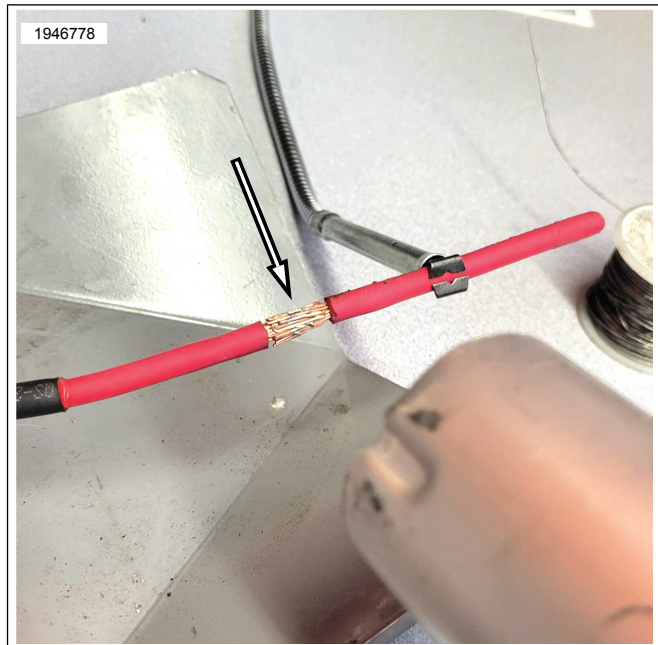

Figure 19. Prep 4: Preheat Wire and Solder with Heat Gun
- f. See Figure 19. **PREP 4:** Preheat wire and solder with heat gun. This will start to melt the solder but is not the finishing step.